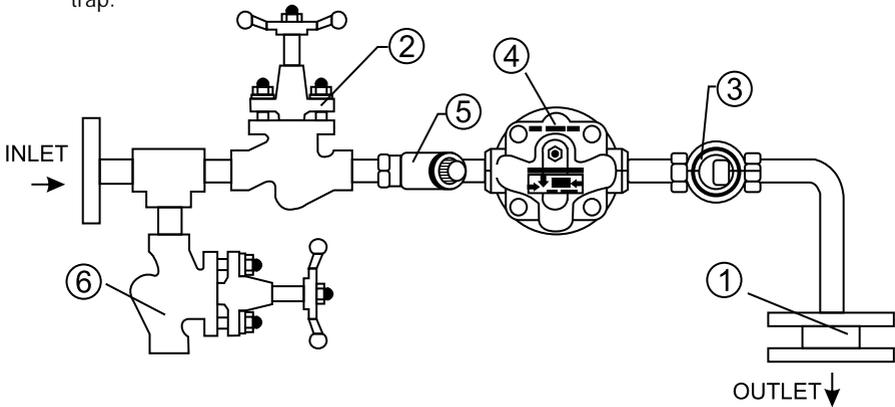

Figure4: Single Orifice Float trap module
5. Installation Guidelines: (Refer to Figure 4, 5 and 6)
3. Ensure the availability of all components as shown in Figure 4, to ensure the operation of the trap.
6.1 Flushing of Lines: (Refer to Figure 4)
1. Close the stop valve (2) and open the bypass stop valve (6).
3. Now slowly close the bypass stop valve (6) and open the stop valve (2)
6.2 Commissioning: (Refer to Figure 4)